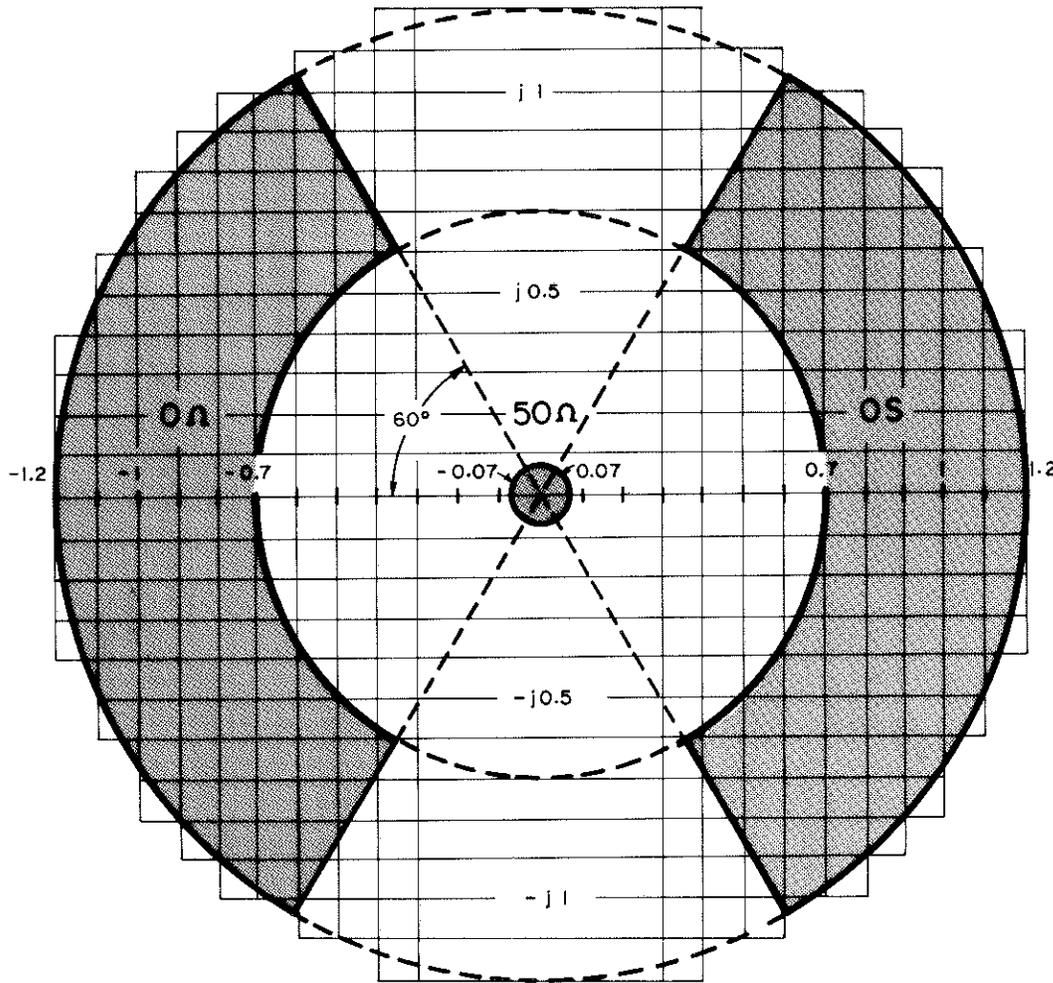

Figure 4-4. Calibration Data Test Limits.
- Monitor calibration data (measured Γ_x and Γ_y values) printed out for individual calibration frequencies. The print outputs should be within the test limits given in Figure 4-4.
- Perform auto-calibration again using the 0S and 50Ω reference terminations. Verify that the print outputs are within the test limits for the respective termination (in Figure 4-4).
Note: If a printer is not available, compare the auto-calibration data, displayed on the DISPLAY A and DISPLAY B, with the test limits given here (easy to remember) and recheck only the critical test results for Figure 4-4.